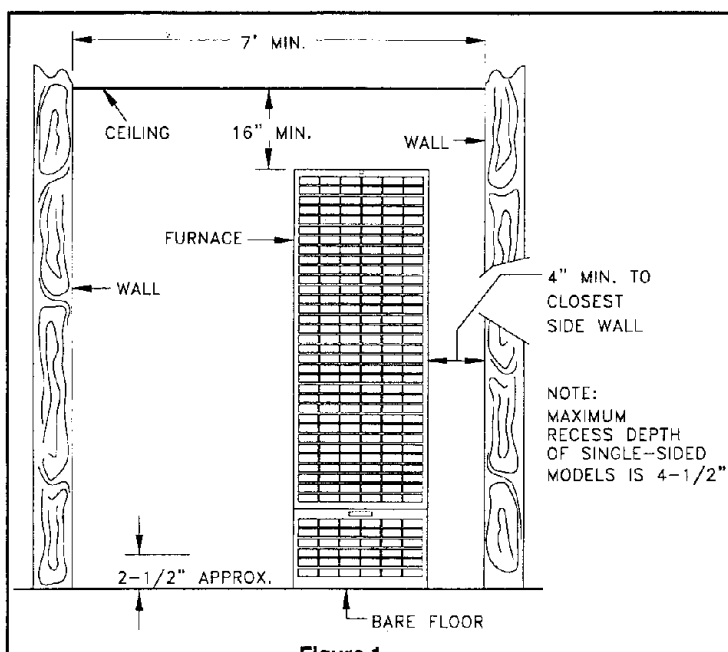

Figure 1
2. Check the minimum spacing needs as shown in Figure 1.